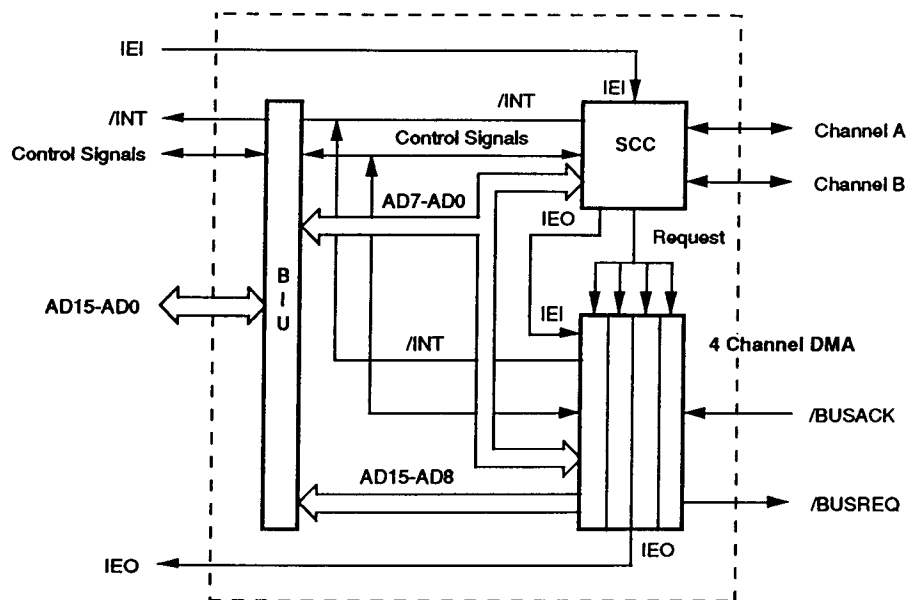

Figure 1. Block Diagram
The following section describes the Z16C35 pin functions. Figures 1 and 2 detail the respective pin functions and pin assignments. All references to DMA are internal.
**Asynchronous Modes.** Send and Receive can be accomplished independently on each channel with five to eight bits per character, plus optional even or odd parity. The transmitters can supply one, one-and-a-half, or two stop bits per character and can provide a break output at any time. The receiver break-detection logic interrupts the CPU both at the start and at the end of a received break. Reception is protected from spikes by a transient spike-rejection mechanism that checks the signal one-half a bit time after a Low level is detected on the receive data input (RxDA or RxDB in Figure 1). If the Low does not persist (e.g., a transient), the character assembly process does not start.